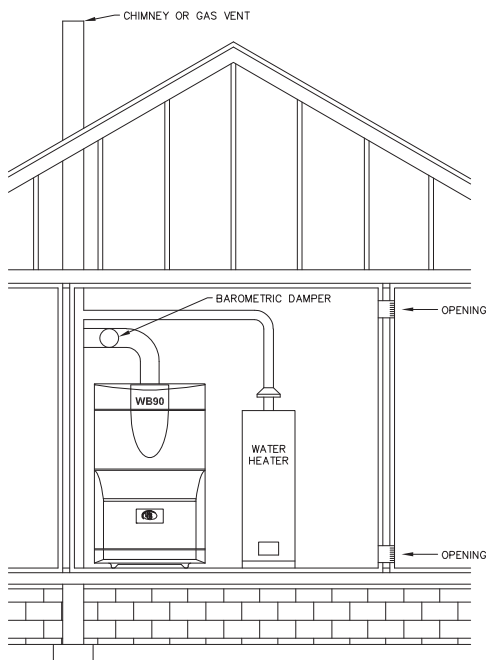

Figure 3.3: Combustion Air Inlet from Indoors
- Two permanent openings are to be provided as shown in Figure 3.3. One near the top of the space and one near the bottom. Each opening is to have free area not less than shown in Table 3.2, column 2. Each opening shall freely communicate with interior areas which have adequate infiltration from outside.